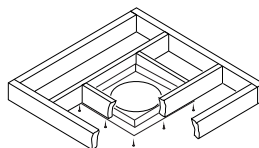

Figure 20 - Installing Firestop
1. Cut a 11 1/2" square hole in the ceiling using the locating hole as a center point. The opening should be framed to 11 1/2" x 11 1/2" (29.21 cm x 29.21 cm) inside dimensions, as shown in Figure 9 on page 8 using framing lumber the same size as the ceiling joists. If the area above the ceiling is an insulated ceiling or an attic space, nail firestop from the top side. This prevents loose insulation from falling into the required clearance space. If the area above the ceiling is a living space, install firestop below the framed hole. The firestop should be installed with no less than three nails per side (see Figure 20).